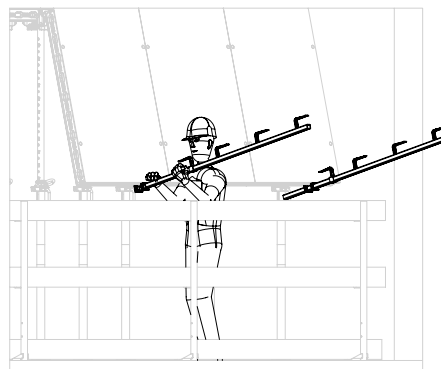
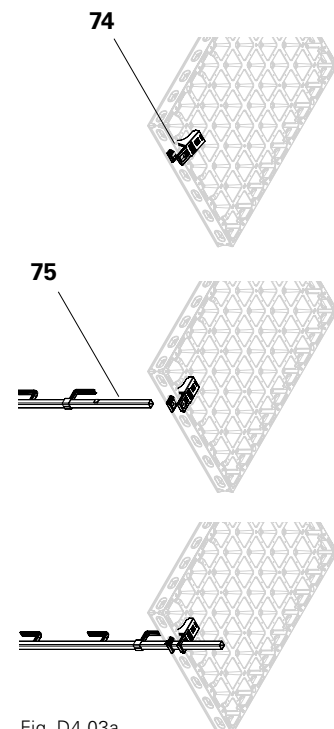
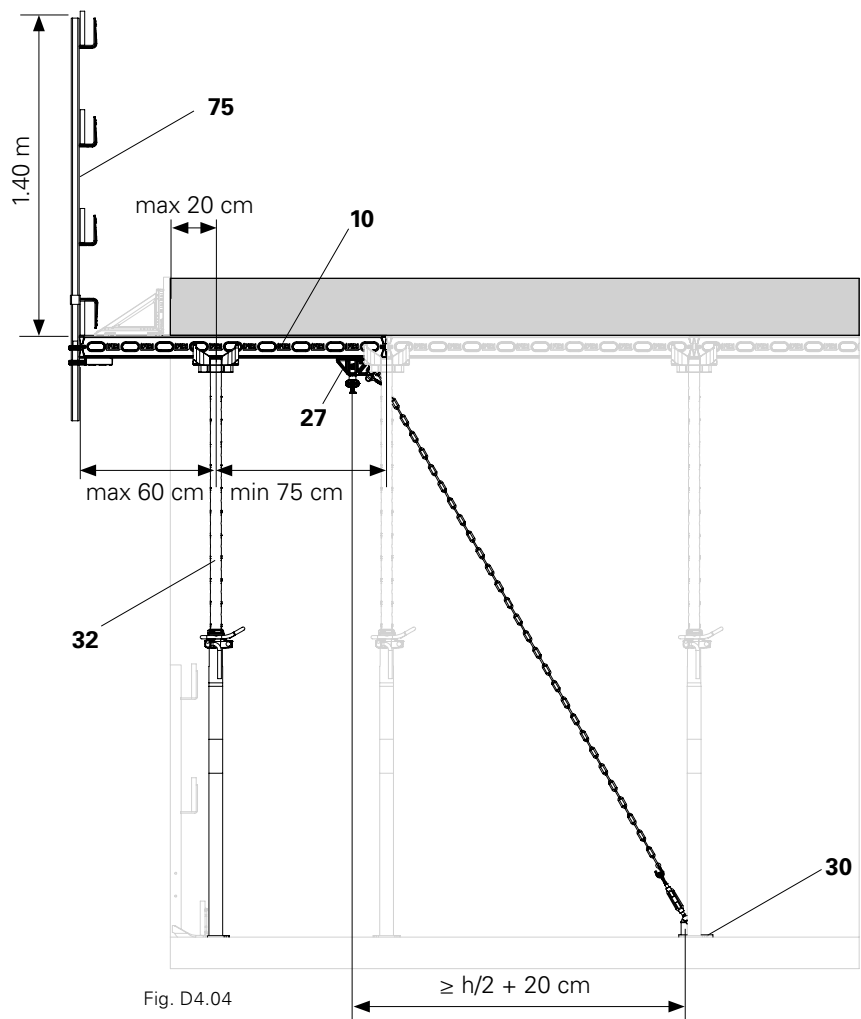

Fig. D4.03
Fig. D4.03a
Fig. D4.04
The maximum cantilever is 60 cm, see (Fig. D4.04).
3. Insert the SGP guardrail post (75) into the square opening of the DUO slab guardrail holder. (Fig. D4.03 + Fig. D4.03a)
4. Place the DUO shuttering aid beside the guardrail holder and push the DP panel up (10). Set the DP panel down on the DUO shuttering aid.
5. Support the cantilever using a slab prop with a DFH prophead (32). Position the slab prop outwards as far as possible. Note: The maximum permissible cantilever is 60 cm! (Fig. D4.04)
1. Mount the base plate (30) as the lower tie point, e.g. with the PERI 14/20 x 130 anchor bolt. (Fig. D4.04)
2. Hook the chain on the bolt of the DUO brace connector (27).
4. Pre-tighten the chain with a turnbuckle. Permissible tension force 3 kN. (Fig. D4.04)
Brace the cantilever. (Fig. D4.04)